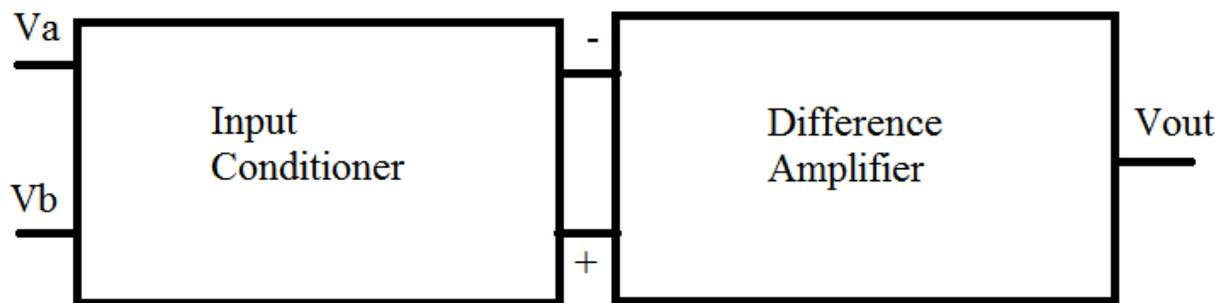

Figure 2: Block Diagram of the differential amplifier
- II. Simulate the circuit in Figure 2 using ADS or PSPICE software and make sure that your resistors' values, calculated above, allow to generate indeed a gain of 1000. Attach a separate sheet of paper, containing results of your transient simulation (for the simulation use 5 mV p-p Sinusoidal **differential** input signal with a frequency of 20 Hz; use +/- 6 V batteries to power the op-amps).